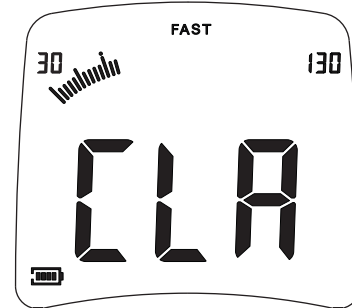

Figure 13
- Press down the  key until the LCD screen displays the symbol CLR, then all recorded data will be deleted, LCD displays as in figure 13: